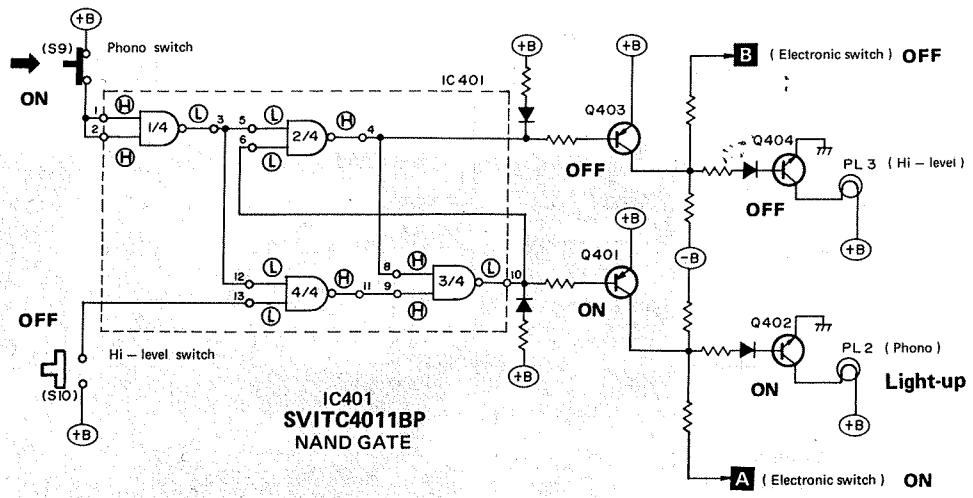

Fig. 1
- (1) When the "phono" button is pressed, **A** switch turns ON, and **B**, OFF. (See Fig. 1.)